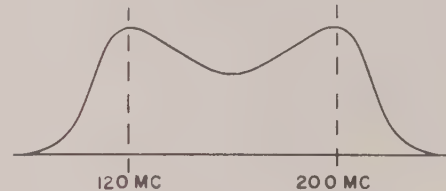

Figure 5. L2804 and L2806 Response Curve
c. Adjust L2803 and L2806 to obtain the response shown in figure 5.